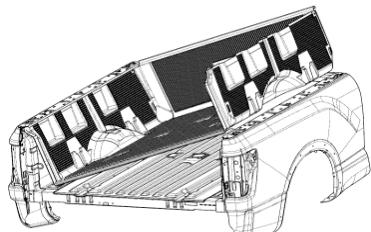

Fig. 4
- 4) Place bedliner in truck bed by lifting passenger's side so that finger locks on driver's side are installed under side rail (Figures 4 and 5).